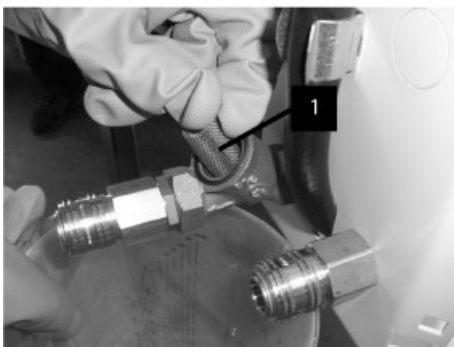

Fig. 52
2. Remove the insert (Fig. 52/1) from the strainer and rinse in clear water.
3. Refit the cleaned insert (Fig. 52/1) to the strainer.